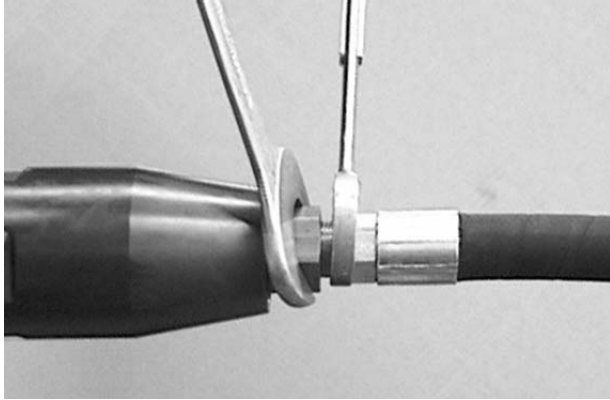

Figure 9-25. Secure Whip Hose To Adapter.
10. Use a 1-1/4-inch open-end wrench to hold the Adapter (18) in place, and a 1-1/8-inch open-end wrench to secure the Whip Hose (20) fitting in the Adapter (18). See Figure 9-25.